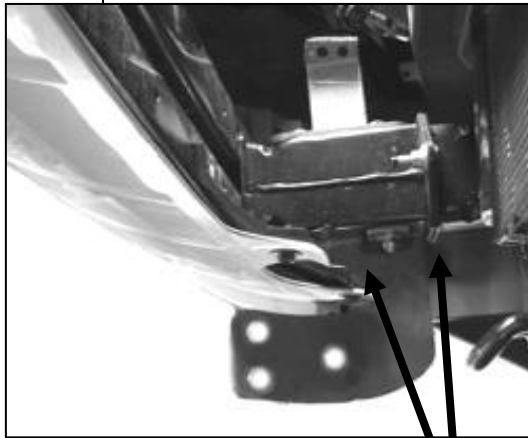

Figure 1
4. Line up holes on the Mounting Bracket with holes on the frame rail. Secure Mounting Bracket with the included (2) 8-1.25mm x 120mm Hex Bolts, (2) 8mm Nylock Nuts, and (4) 8mm Flat Washers (Figure 1 & 2). Do not tighten at this time.